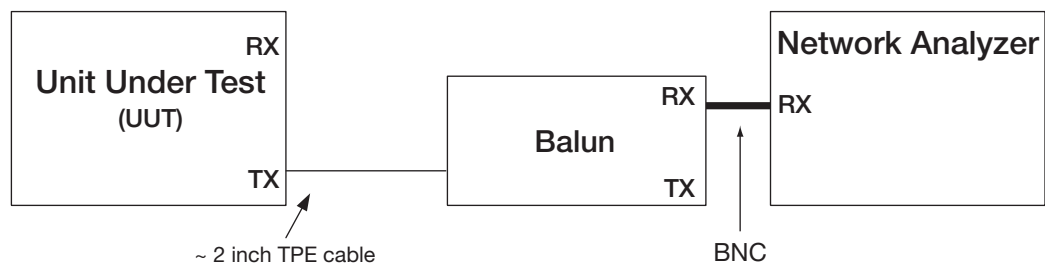

Figure 18-1. Test Setup for 10Base-T Harmonic Content
1. Insert CAT 5 cable into transmitter side of Balun fixture and connect Balun to Spectrum Analyzer (or Network Analyzer) through a BNC cable as shown in Figure 18-1.